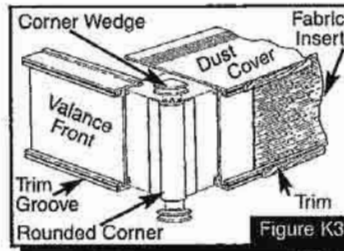

Figure K3
1. To assemble, slide the fabric, as well as the top and bottom trim away from one end of the valance. (Figure K3)